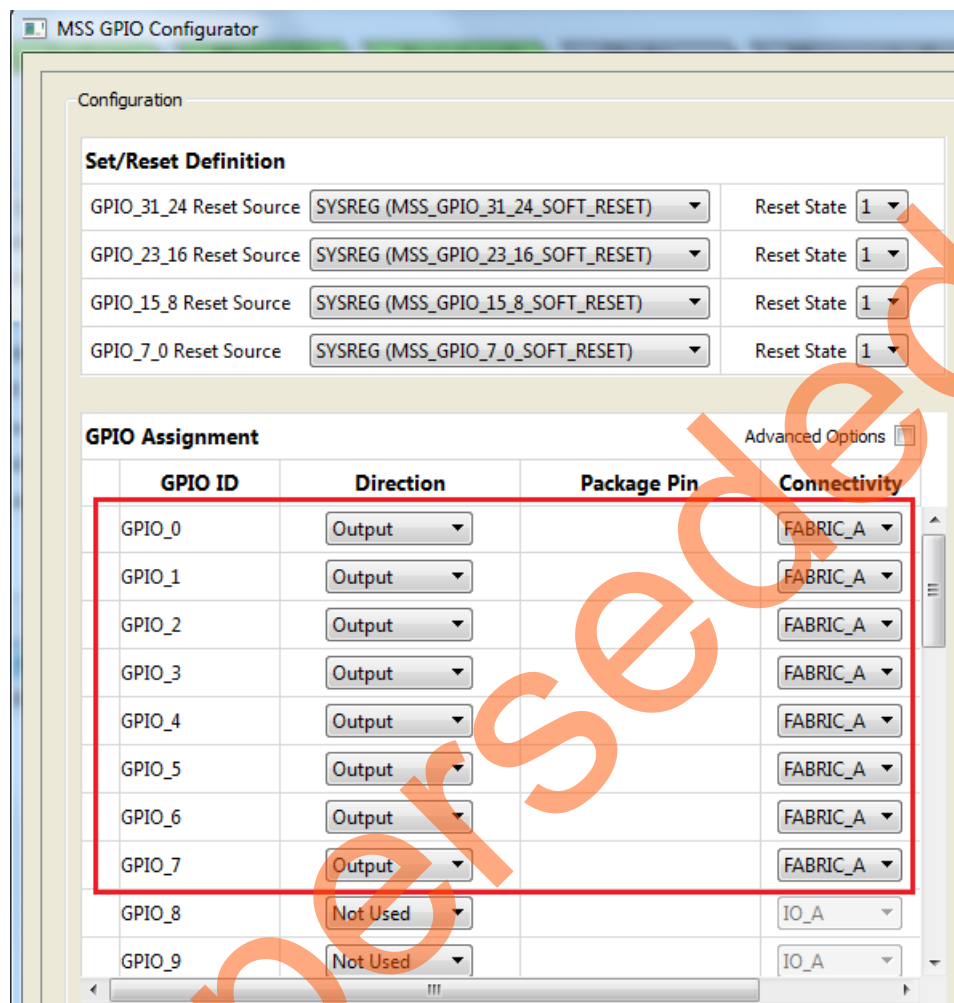

Figure 12 • MSS GPIO Configuration
8. Use the settings in **MSS_GPIO Configurator tab** as shown in Figure 12 and keep the rest at default states. Eight GPIOs are configured as output and routed to FPGA fabric.